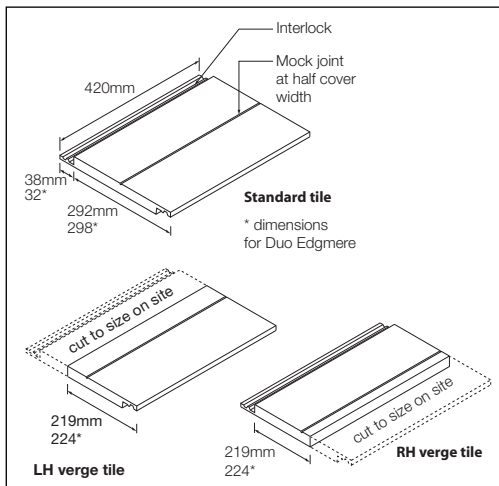

Fig 7 – Cutting dimensions for LH and RH verge (Duo Modern and Duo Edgemere)
- 1 Ensure that the eaves course right hand or left hand verge starts with either a three-quarter width, half width or standard tile as indicated in Figs 7 and 8.
- 2 Continue subsequent courses of slates laid in a quarter bond, ensuring that left and right verge tiles are cut as either half tiles, three quarter tiles or standard tiles (see Fig 7).